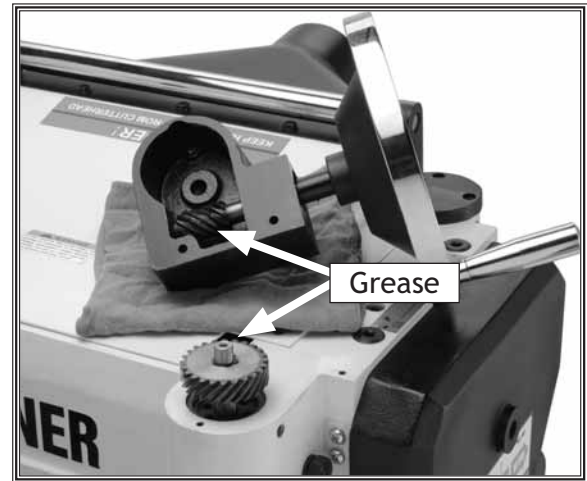

Figure 21. Worm gear lubrication.
- **Worm Gear:** Inspect the worm gear monthly and lubricate when needed. The worm gear box will need to be removed to perform the inspection (see **Figure 21**).